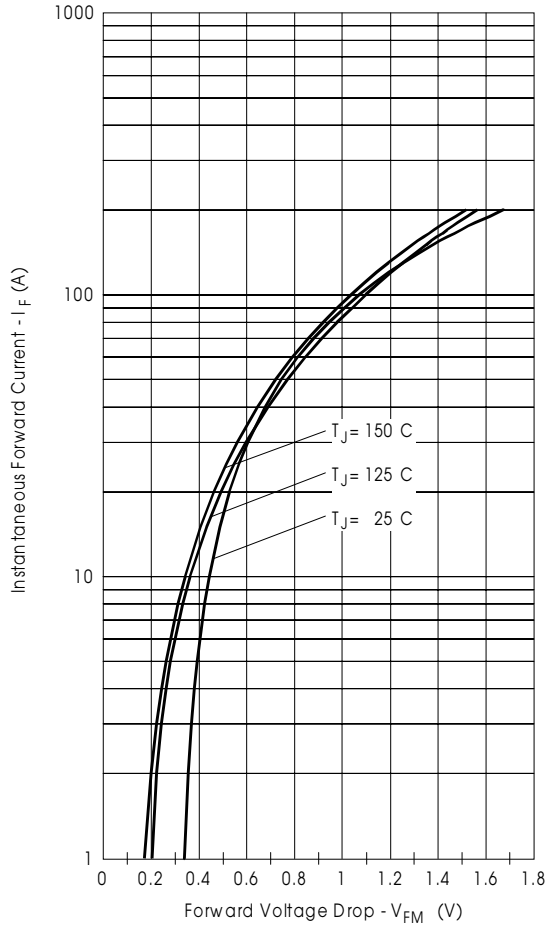

Fig. 1 - Max. Forward Voltage Drop Characteristics (Per Leg)
$V_{FM}$ Forward Voltage Drop (Per Leg) * See Fig. 1 (1)	Typ. Max.